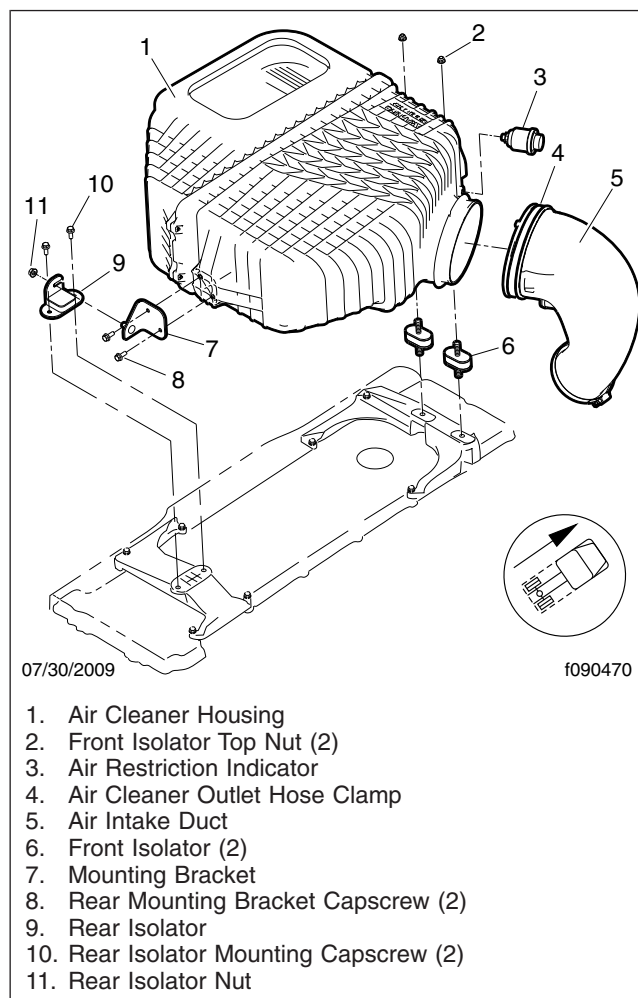
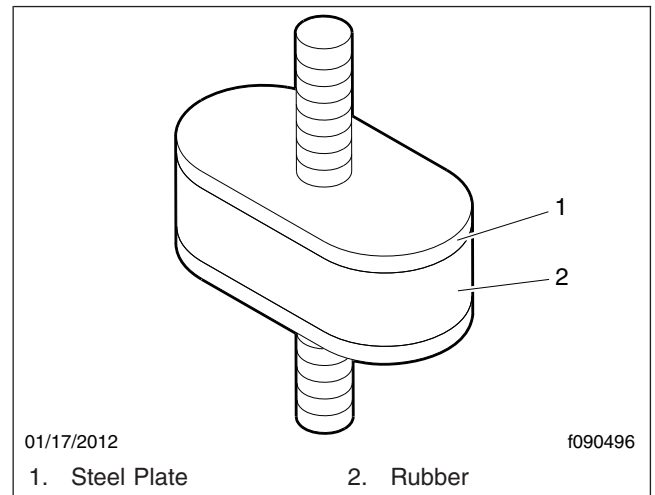

Fig. 5, Air Cleaner Assembly and Mounting Components, 5700 Models
Fig. 10, Mounting Isolator
For an installation diagram of the engine-mounted air cleaner used on 5700 models, see Fig. 5.
4. Inspect the forward and rear mounting isolators (see **Fig. 5**) for damage. Ensure the bonds between the rubber and the steel plates are completely intact. See **Fig. 10**.